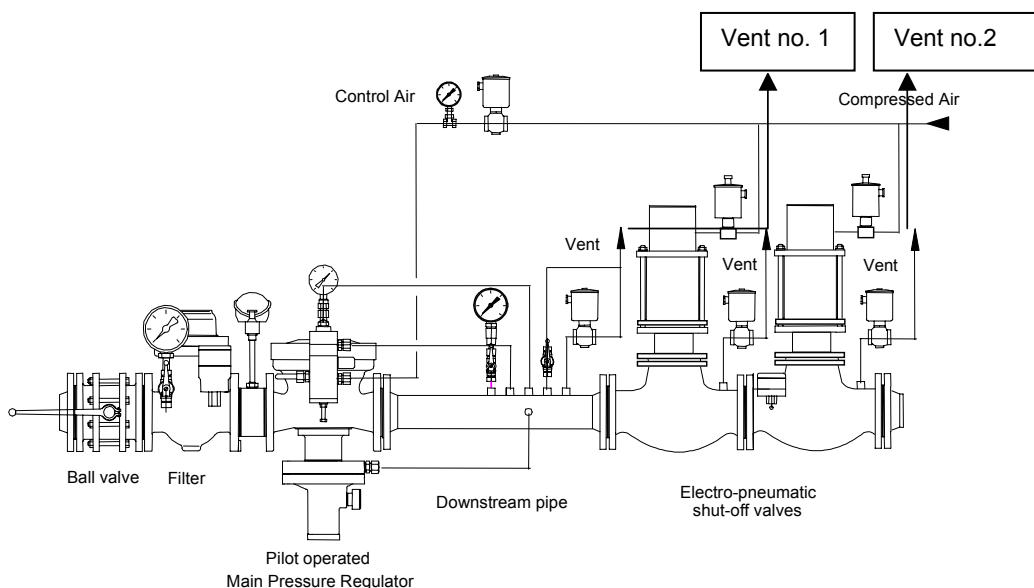

Figure 9 Gas regulating unit.
During normal shutdown, perform the following checks (see Figure 9):
2. Close the main gas valve V01 (see Figure 9: ball valve).